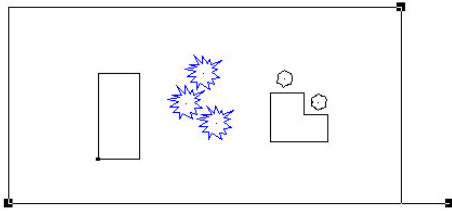

Figure 15-8. Drawing Area of Title Block Dragged Around Data for Drawing
2. Locate the required title block for this drawing, and click **Open**. The lower-left corner of the title block displays in the middle of the screen (Figure 15-8).